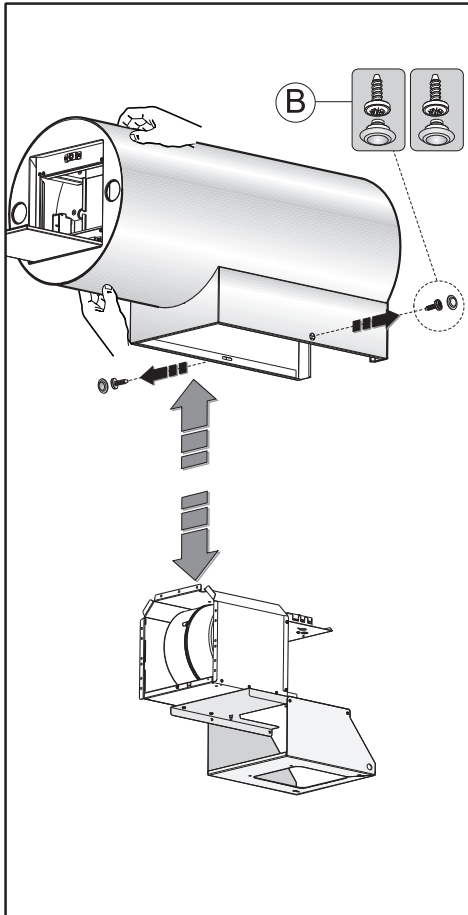

Fig.4
- Separate the bodywork from the frame, removing the plugs and then the screws B as indicated in **Fig. 4**.